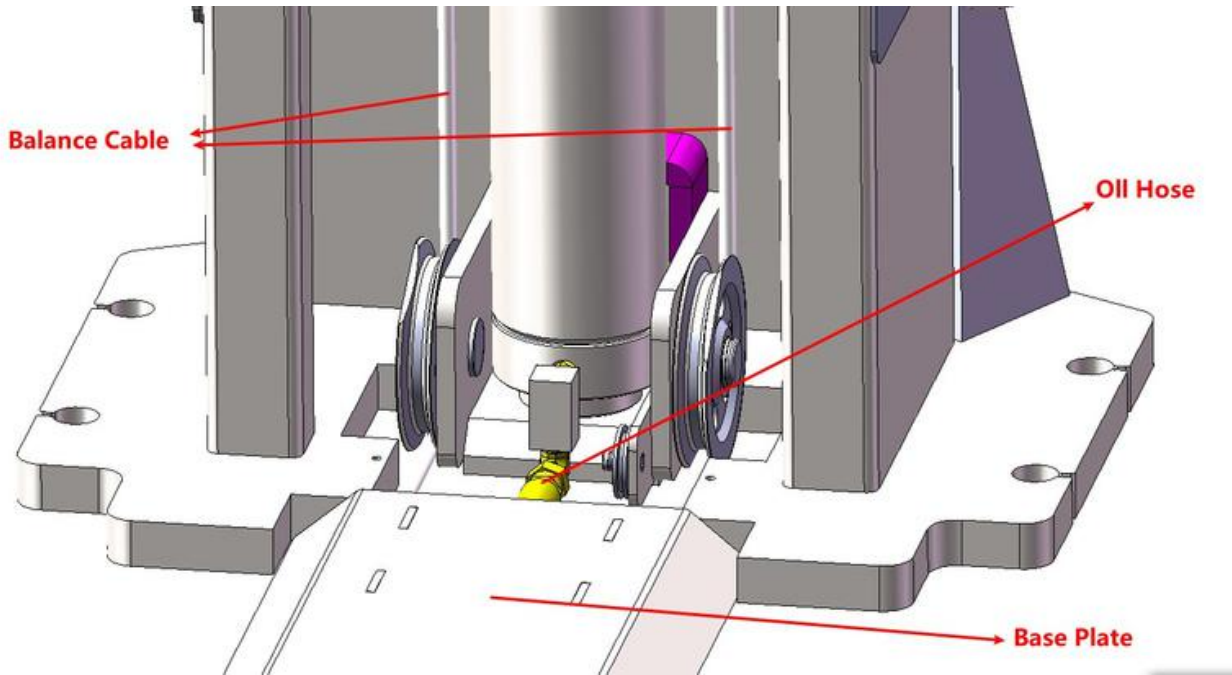

Fig 14
1. Safety Lock Release Cable & Hose & Top Limiter Switch Wire Position (Fig 14).